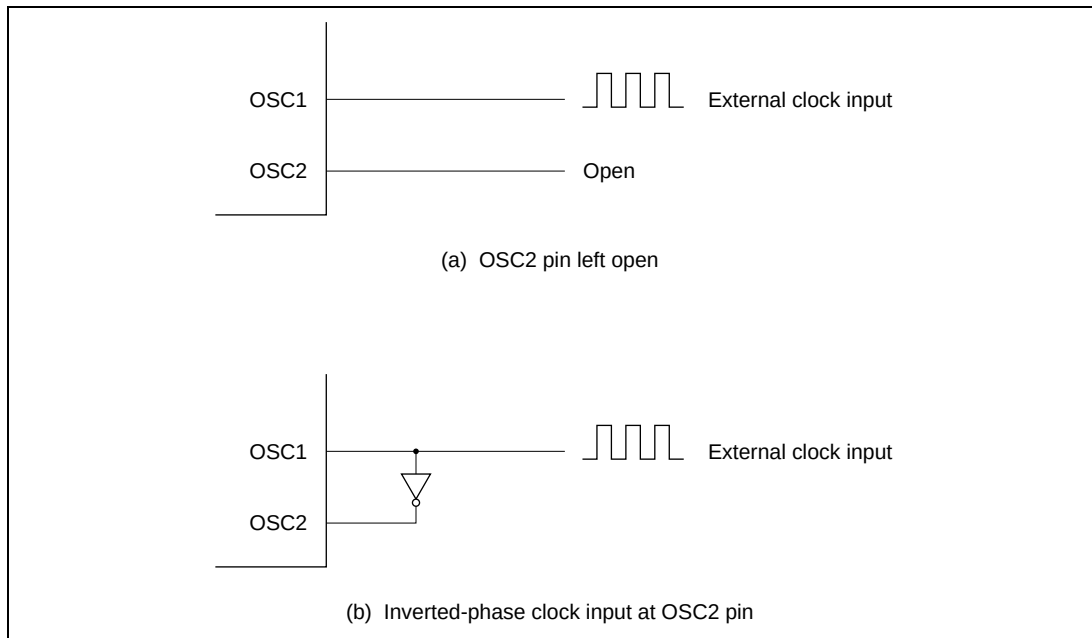

**Figure 9.5 External Clock Input (Examples)**
**Circuit Configuration:** An external clock signal can be input as shown in the examples in figure 9.5. If the OSC2 pin is left open, make sure that stray capacitance is no more than 10 pF.